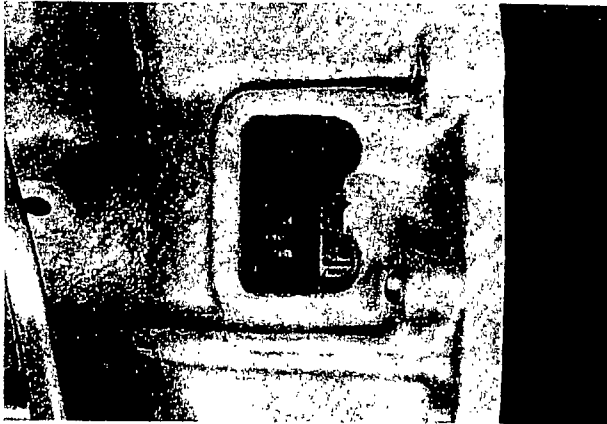

Fig. 3-2-49 Timing mark on flywheel
- Retighten the six bolts Nos. 4, 5, 12, 13, 20 and 21 (Fig. 3-2-49) with special socket wrench No. 09839-1701.